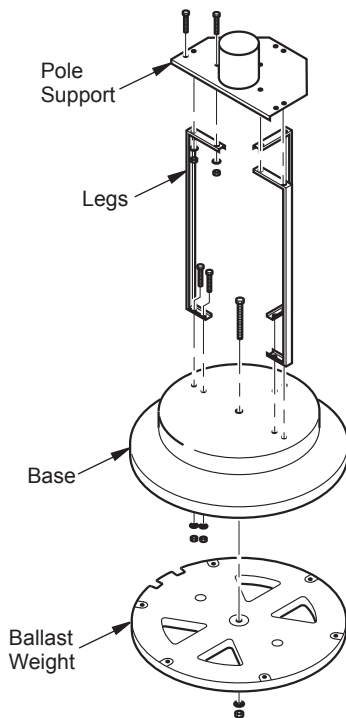

Figure 1 - Base Assembly
1. Attach legs to base using two bolts, two lock washers and two nuts (see Figure 1). Insert bolts through legs and into top of base. Attach lock washers and nuts from underneath base. Finger tighten only. Repeat for each leg. Do not fully tighten until next step.
3. Attach ballast weight to base using one, long bolt, lock washer and nut (see Figure 1).